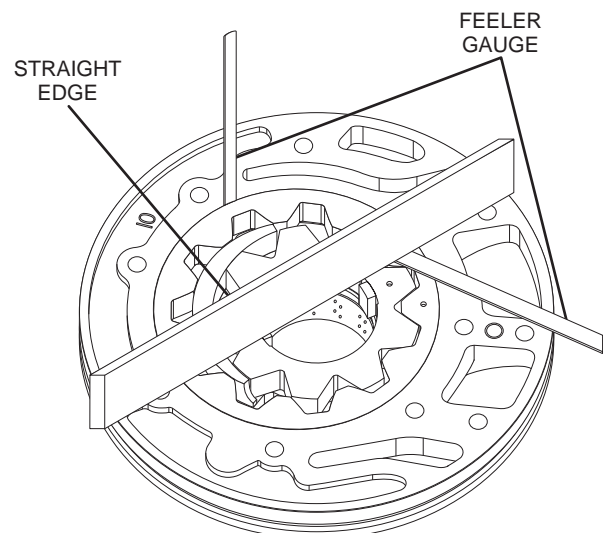

Figure 88
6. Check the oil pump driven gear to pump body clearance by using a feeler gauge between the driven gear and oil pump body as shown in Figure 88.
7. Check the oil pump driven gear to pump body crescent clearance by using a feeler gauge between the driven gear and the oil pump body crescent as shown in Figure 88.
8. Check the oil pump drive and driven gear side clearance using a straight edge and a feeler gauge as shown in Figure 88.